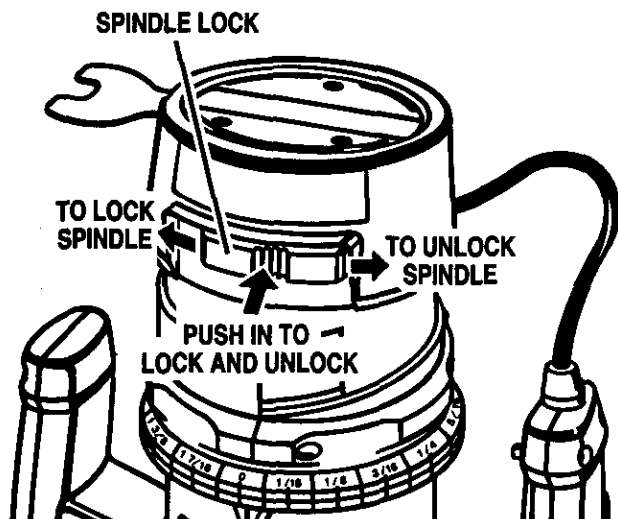

Fig. 2
See Figures 2 and 3.
■ A spindle lock is located on the front of the motor housing. To activate lock, push spindle lock in and slide into lock position. See Figure 2.